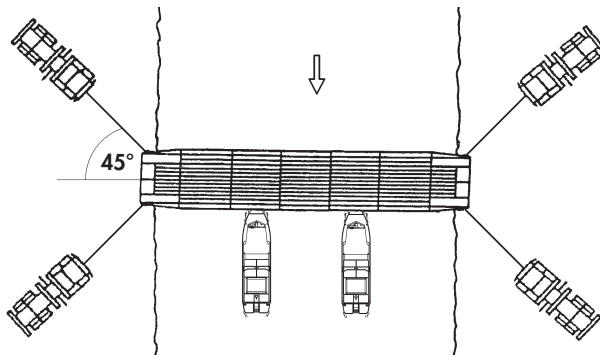
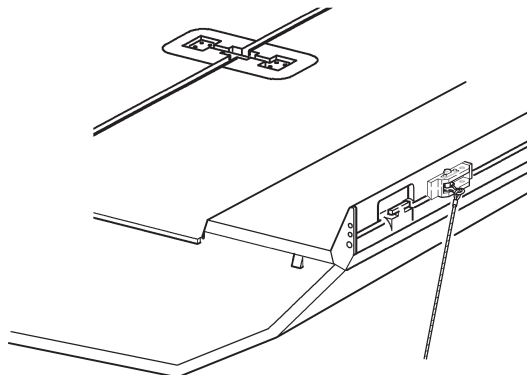

Figure 1. Typical End Span Anchorage.
Figure 2. Ramp Bay Load Receiving Pin.
- (2) In addition to placement of BEBs along the downstream side of the bridge, the ramp bays must be secured at both riverbanks during bridge assembly. End span anchorage is necessary to prevent the bridge from creeping away from the shore as a result of the impact of vehicular traffic driving on the bridge. If four transporters are available, position each transporter at approximately a 45-degree angle to the bridge centerline at both ends of the bridge. (Refer to figure 1.) Using the front winch cable to the first load-receiving pin on the side of the ramp bay. (Refer to figure 2.) Pay in cable to take up slack, set parking brake, and chock wheels on each transporter. (Refer to figure 1.)